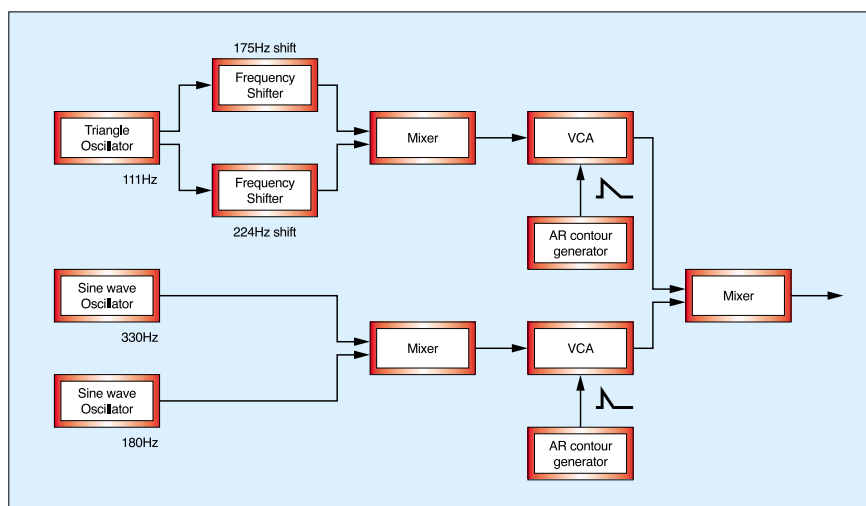
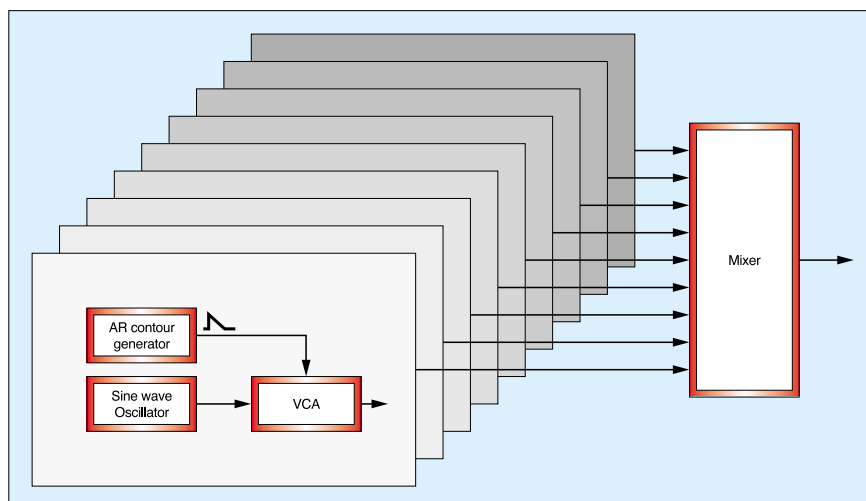

Figure 6: A better snare-less snare drum synthesizer.
Figure 7: The additive approach to generating drum partials.
Unfortunately — again — if we stick to this method of synthesis, there is little or nothing we can do to reduce the cost. Indeed, measurements of real snare drums suggest that, for a realistic sound, we must add further modules and *increase* the complexity rather than reduce it. This is because the frequencies produced by the 0,1 mode decay far more quickly than the other partials... sometimes at more than twice the rate. Although this means that they are rather short-lived (which makes it tempting to eliminate them altogether), we can't do this, because it would remove depth and bottom end from the sound. So, to synthesize the correct response, we have to pass the outputs from the sine-wave oscillators through a second VCA whose gain is controlled by another Attack-Release generator, one with a quicker Release than the first one (see Figure 6 on the next page).
At this point, the architecture in Figure 6 is starting to look a little too elaborate for my tastes. OK, it's not the most convoluted patch I've ever created for Synth Secrets, but given that it's just a single element within a more complex sound, I'm worried that things might get out of control.
So let's look at this sound in a different way. After all, we are considering a limited number of partials, and that suggests that additive synthesis might provide a more suitable solution to the problem. But even the nine partials in Figure 1 require nine oscillators, nine amplifiers and nine contour generators. These would allow us to program exactly the right frequencies, amplitudes and decay rates, but, including the final mixer, this would require 28 modules (see Figure 7). Given the high price of frequency-shifters, this may still work out somewhat cheaper than the 12 modules shown in Figure 6, but it's far from a practical solution. Oh yes...
► and my choice of working with nine partials is arbitrary. In reality, the drum produces scores of partials. So it seems that we are stuck with Figure 6.